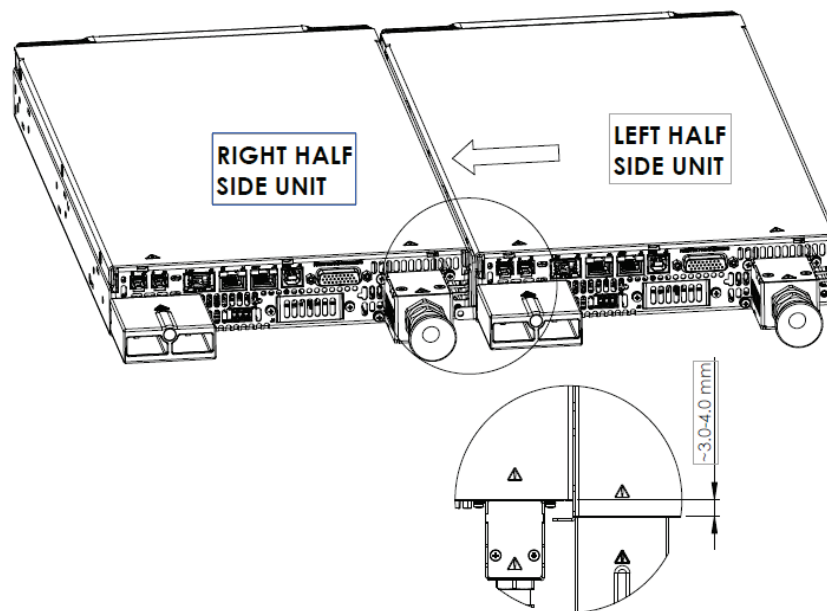

Figure 4-8: Assembly
- Assemble the right half side unit to connection bracket as shown in Figure 4-8.